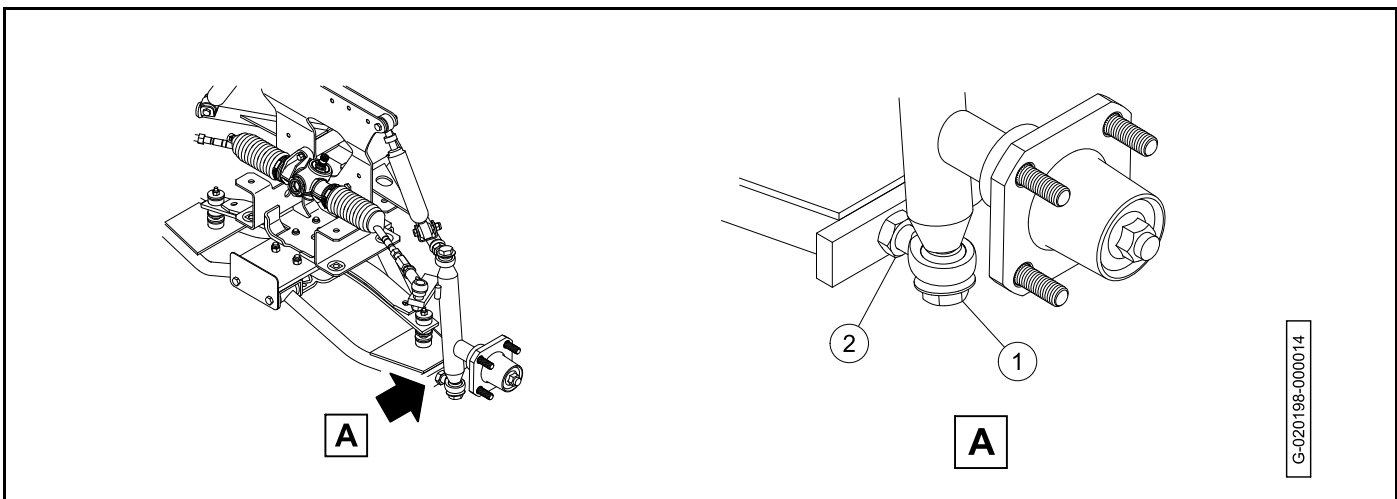

Figure 7-21
12. Add thread locker to the bottom hex-head bolt (1) that secures the lower a-arm to the bottom of the spindle, reinstall, and tighten to 118 ft·lb (160 N·m) (**Figure 7-21, Page 7-16**).